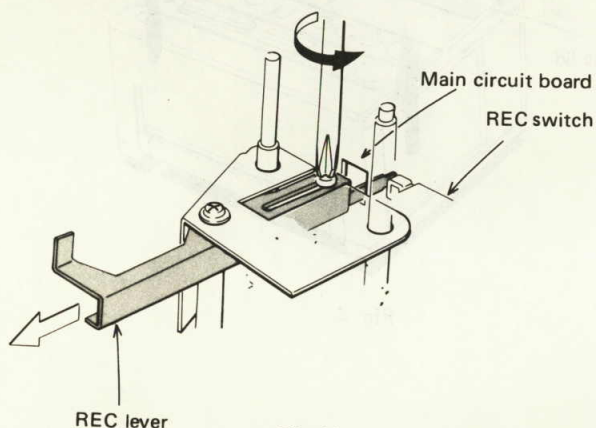

Fig. 7
- 1) After loosened the screw for the REC lever, slide it in the direction of the arrow. (See figure 7)